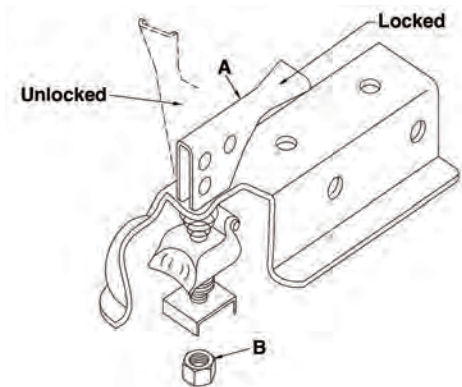

Figure 25
- 3) Attach the 2" ball coupler (Fig.25) to a class 2 or higher vehicle hitch with 2" ball (only).
- 4) Adjust coupler to ball by raising locking lever (A) Fig.25 and turning lock nut (B) with fingers.